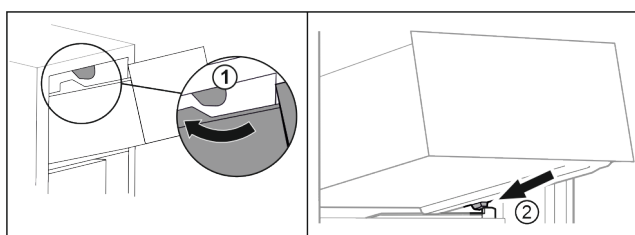

Fig. 77
- Guide drawer around the upper stoppers. Fig. 77 (1)
- Place drawer at an angle behind the lower stoppers onto moulded rib. Fig. 77 (2)